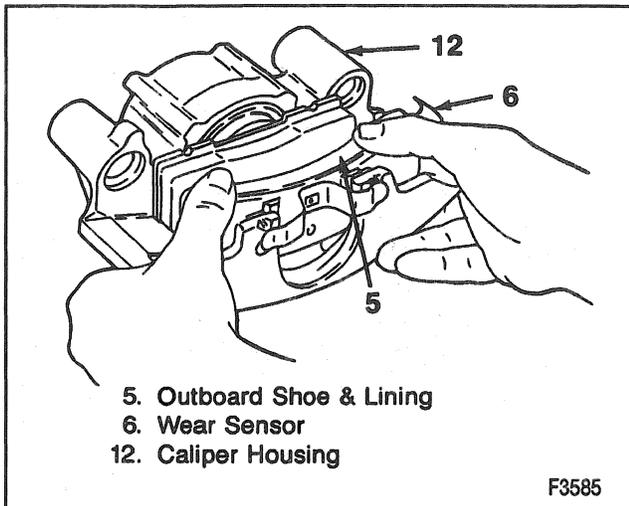

Figure 11—Installing the Outboard Lining
- The pad retainer spring (17) is already staked to inboard shoe.
5. Outboard lining (5) with wear indicator (6) at leading edge of pad during forward wheel rotation (Figure 11).
6. Caliper (12). Refer to "Caliper" in this section.